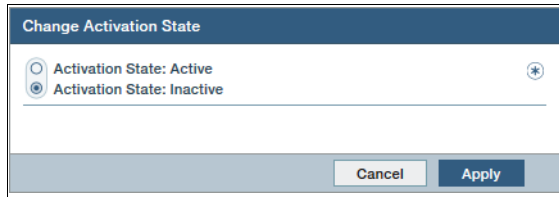

Figure 4-65 Changing the activation state of a CG
2. Select **Activation State: Inactive**, and click **Apply** to change the state, as shown in Figure 4-65.